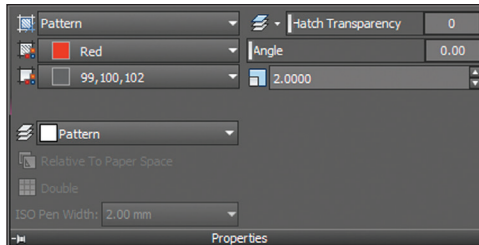

FIGURE 8.14 Configuring hatch properties
5. Select the pattern called ANSI31 in the Pattern panel if it is not already selected. Select index color Red in the Color drop-down in the Properties panel. Select color 99, 100, 102 in the Background Color drop-down. Change the Scale value to 2.0000. Expand the Properties panel, and select Pattern from the Hatch Layer Override drop-down (see Figure 8.14).